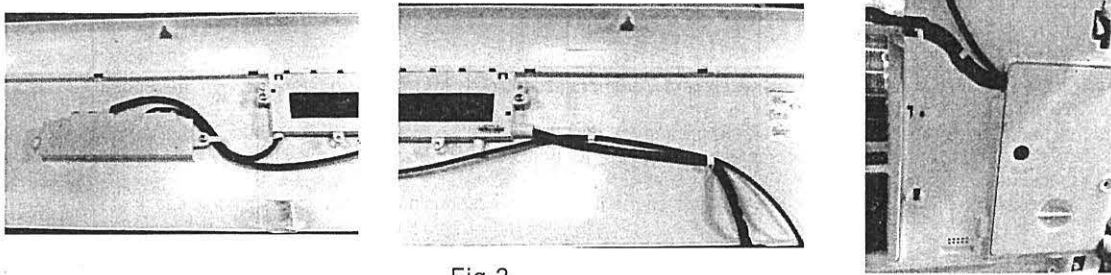

Fig.2
1. The DR control box has been installed and connected with the indoor unit as shown in Fig.2.